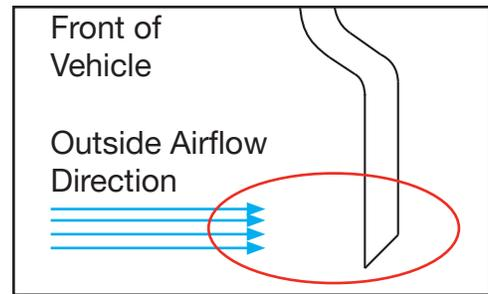

Figure 4: Outlet Vent for Open Configuration.
- Ensure that the venting location of the outlet is on the rear of the vehicle (or the bottom rear of the engine compartment) and pointing vertically downward (see Figure 4).